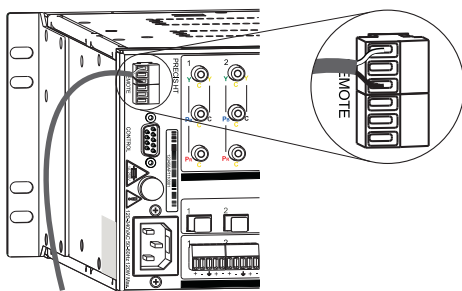

FIG. 10 Insert wires into REMOTE connector on CPU
4. Insert the two wires of the XNNet link cable from the device into either of the REMOTE connectors leaving the center slot empty (FIG. 10).